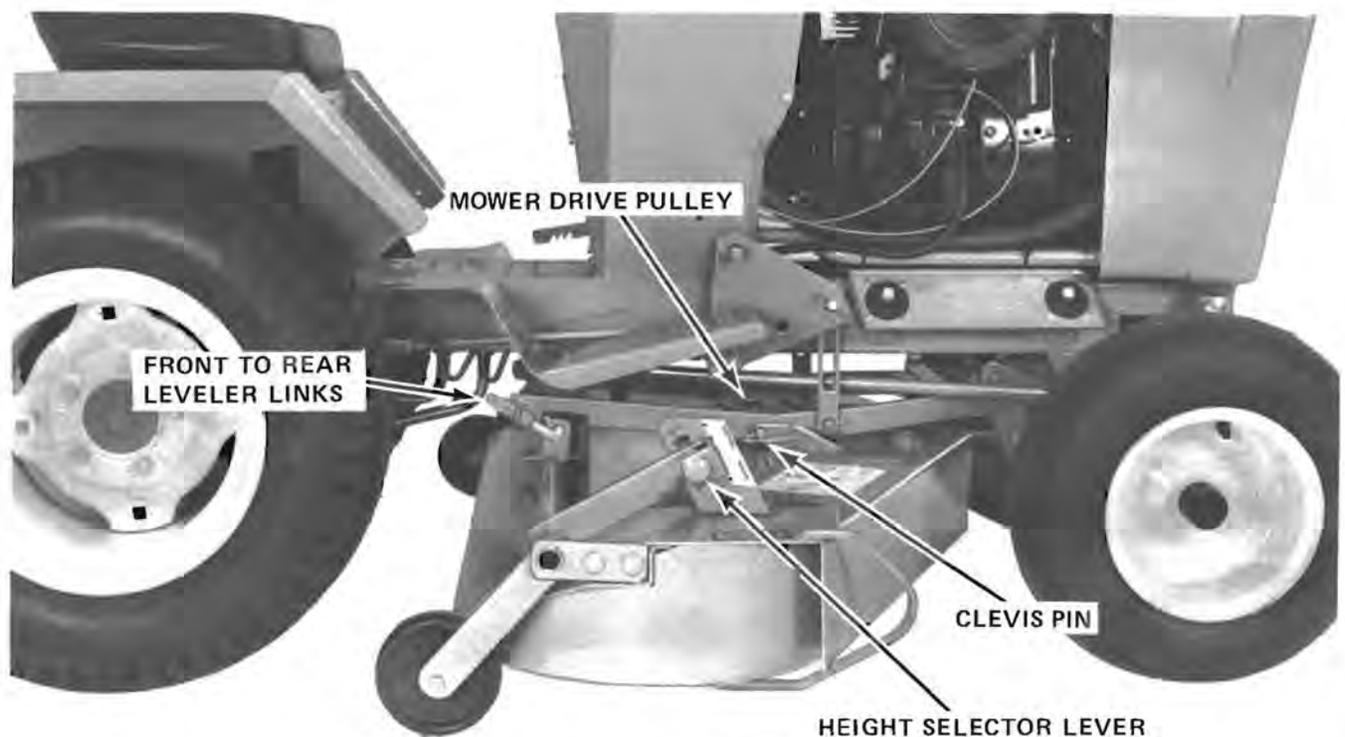

FIGURE 16 MOUNTING THE K44 MOWER CHASSIS
Raise the lawn mower to the "M" position. Lower the mounting bracket to the lawn mower chassis. See Figure 16.
7. Fasten the leveler links to the mounting bracket as shown in Figure 16.